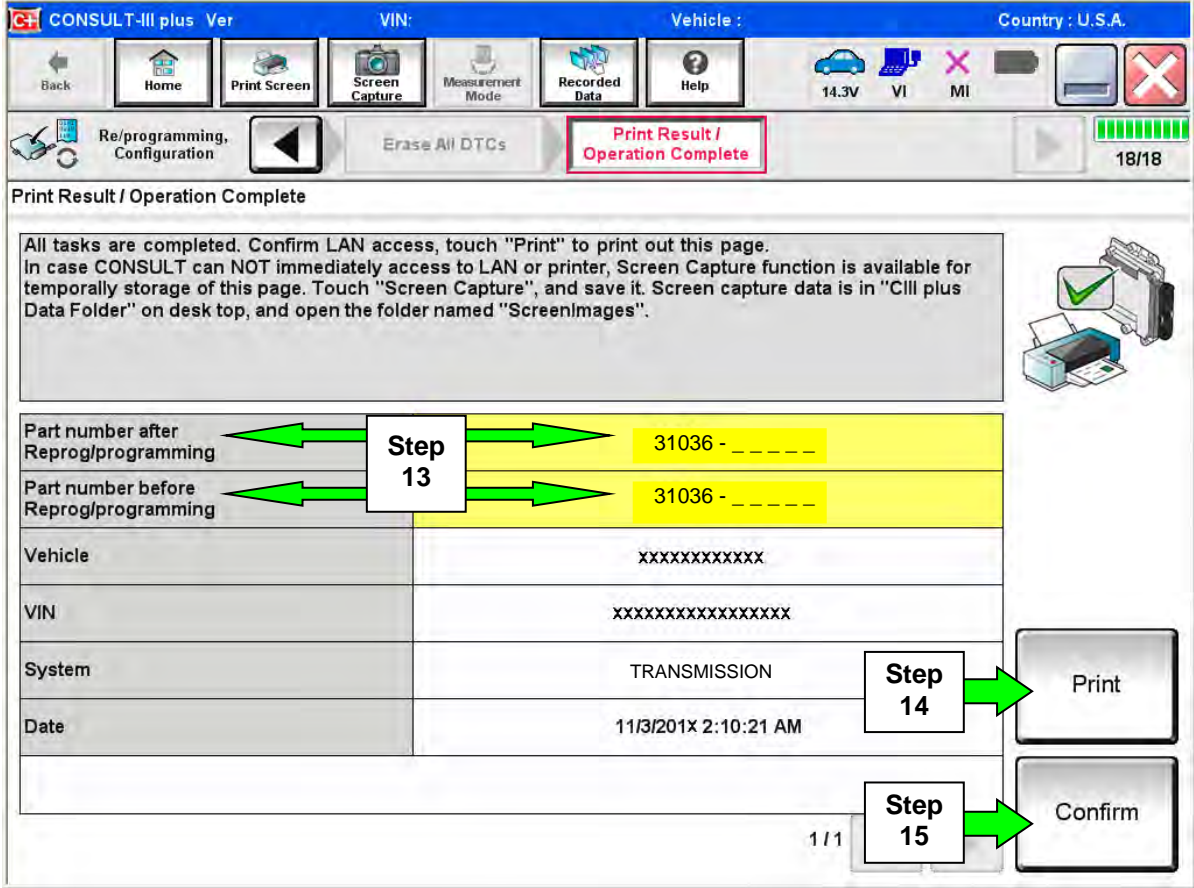

Figure 7K
- 12. When the entire reprogramming process is complete, the screen in Figure 7K will display.
- 14. Print a copy of this screen (Figure 7K) and attach it to the repair order for warranty documentation.